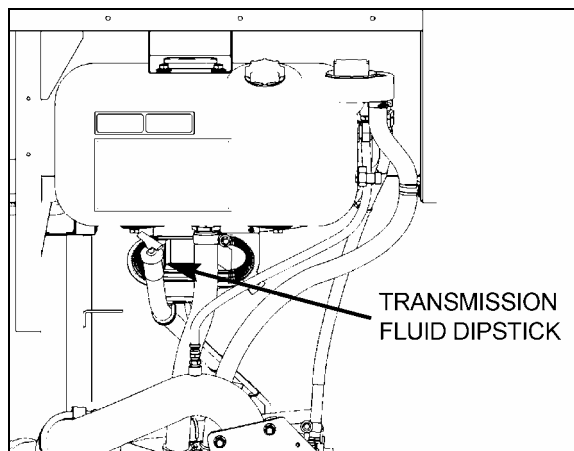

FIGURE 4: OIL LEVEL DIPSTICK (ALLISON)
To gain access to the dipstick, open the engine compartment rear doors; dipstick is located on the radiator side of the engine (Fig. 4).
5. Finally shift to Neutral (N) and allow the engine to idle (500 - 800 rpm).
6. While the engine is running, remove the dipstick from the tube and wipe it clean (Fig. 4). Insert the dipstick into the fill tube, pushing down until it stops.